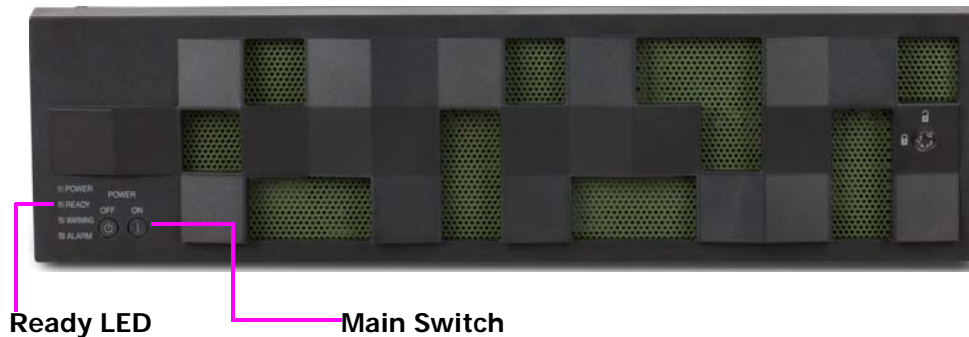

Figure 15-17: READY LED and main switch on CBL Controller Box
- a. Press the main switch on the front bezel. See Figure 15-17. Turning on the main switch with connected the UPS interlock cable starts the storage system.
- b. Verify that the green **READY** LED on the front bezel is ON (usually five-to-10 minutes after attaching power cables). See Figure 15-17.